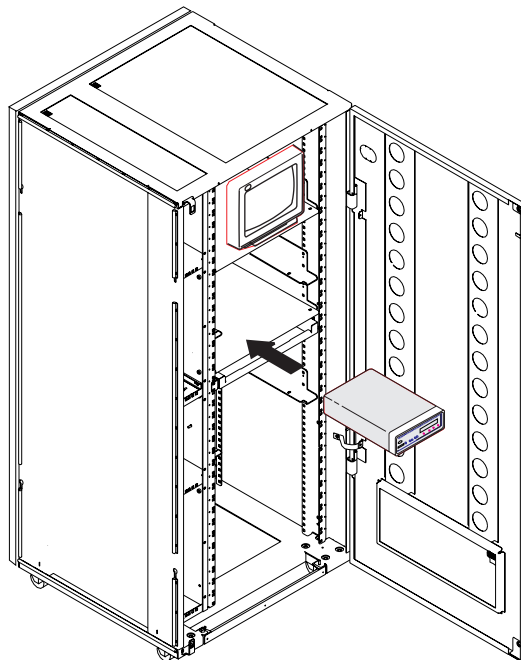

Figure 1-71. Installing the 7858 in the Controller Expansion
3. ____ Slide the 7858 in the controller expansion as shown in Figure 1-71.